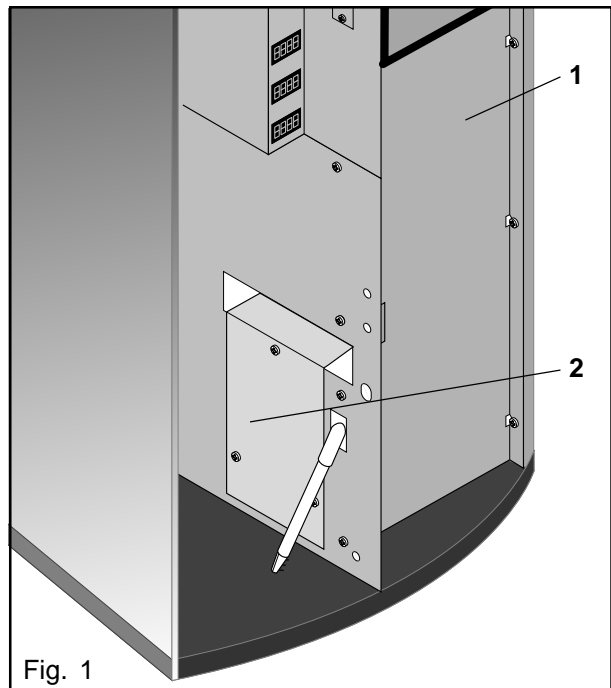

Fig. 1
- Remove the bottom front cover (1). (Fig. 1)
- Remove the cover (2) in the separating wall. (Fig. 1)